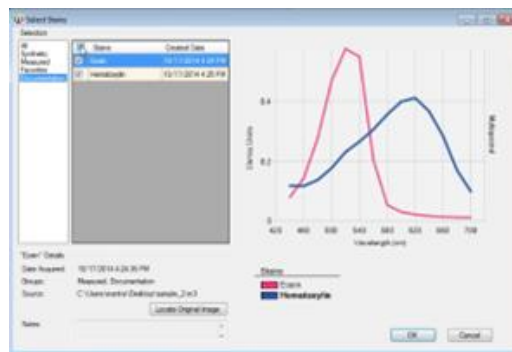

FIGURE 8.3. Available stains can be selected for preparing images.
2. Choose the spectra that represent the stains or fluorophores in your sample. (See Figure 8.3.)